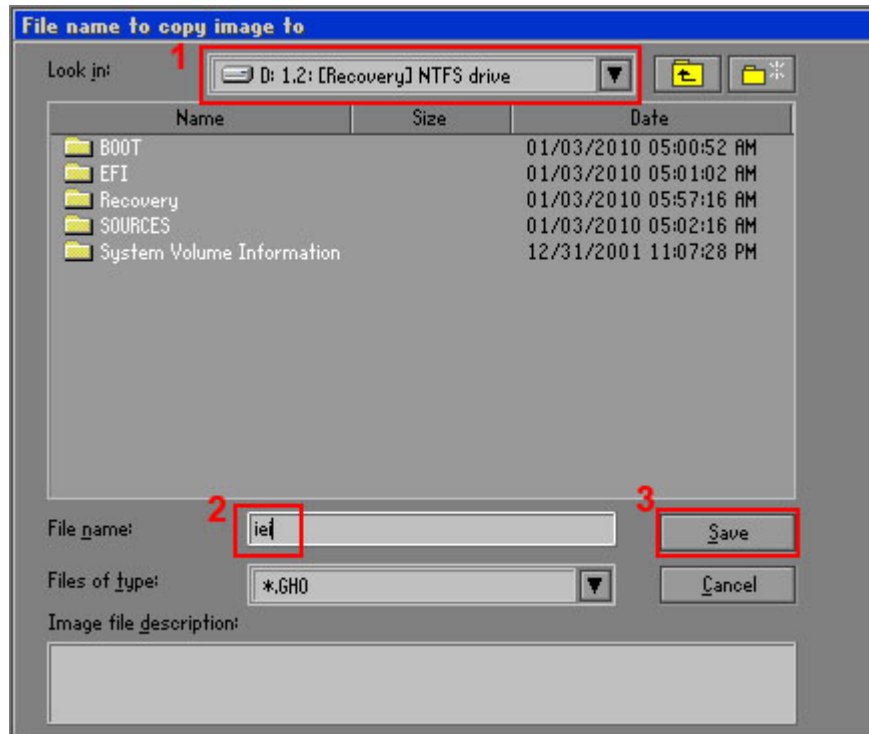

Figure C-16: File Name to Copy Image to
Step 7: Select 1.2: [Recovery] NTFS drive and enter a file name called **iei** (**Figure C-16**). Click **Save**. The factory default image will then be saved in the selected recovery drive and named **IEI.GHO**.